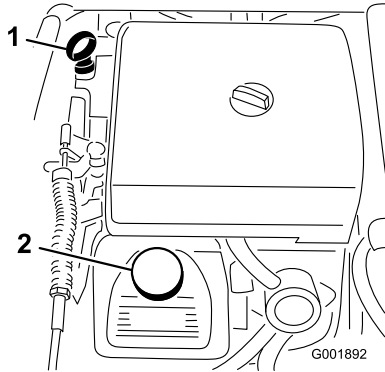

Figure 46
- Remove the dipstick and wipe it with a clean rag (Figure 46). Insert the dipstick into the tube and make sure it is seated fully. Remove the dipstick and check the oil level.
- If the oil level is low, remove the filler cap from the valve cover (Figure 46) and pour oil into the opening until the oil level is up to the Full mark on the dipstick. Add the oil slowly and check the level often during this process. Do not overfill.
- Slowly pour approximately 80% of the specified amount of oil into the oil filler tube (Figure 46).